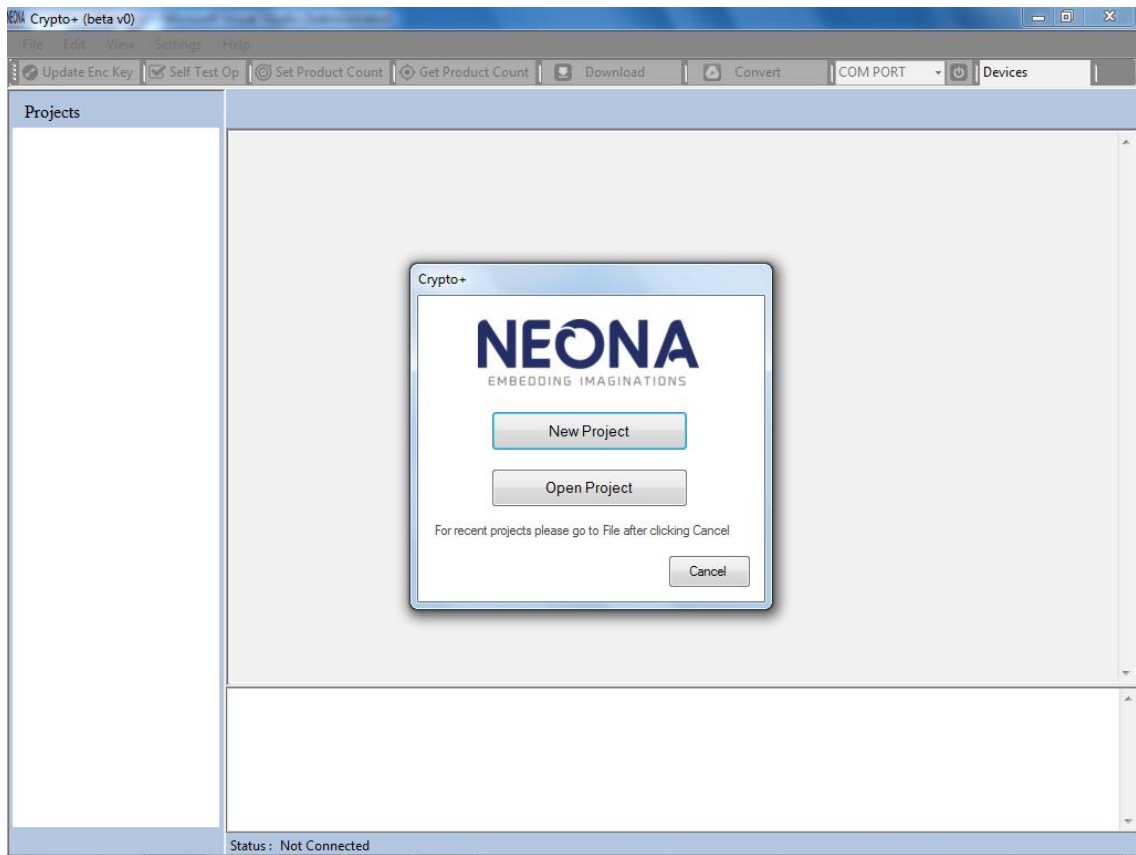
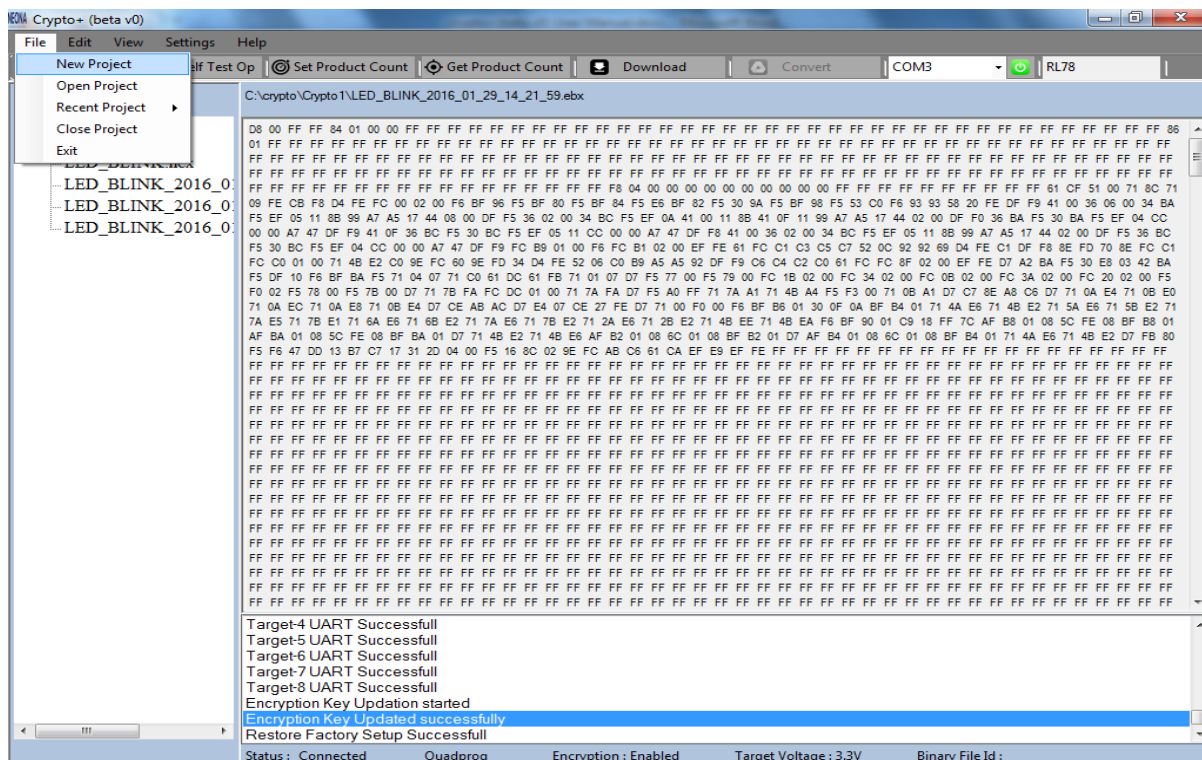

Figure2.11
Figure 2.12
STEP 1: To create a new project, start the application & click on **New Project** button as shown in figure 2.11 or if the application is already opened, then new project can be created from **File->New Project** as shown in figure 2.12.